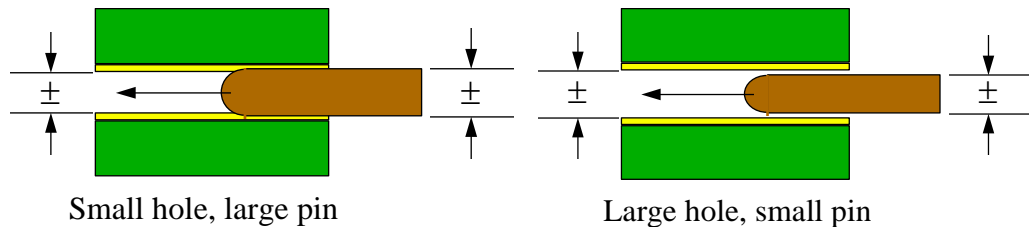

Figure 1. Tolerance Stack-up of Plated Through-Hole and Pin
**Stack tolerances** are the cumulative superposition of tolerances of individual components. For example, consider a compliant pin inserted into a plated through-hole in a circuit board (Figure 1). If the hole diameter is at the low end of the tolerances while the pin diameter is at the high end, the parts will fit together tightly. This would ensure a high insertion and retention force. However, an excessively high insertion force may make assembly difficult. At the other extreme, if the hole diameter is at the high end of the tolerances while the pin diameter is at the low end, the parts might create a looser fit. If the fit is too loose, the connection could be easily disrupted by vibrations or shock loads. The design example in the January 2000 edition of Technical Tidbits provides an example of stack tolerance issues in a curved cantilever beam style contact.